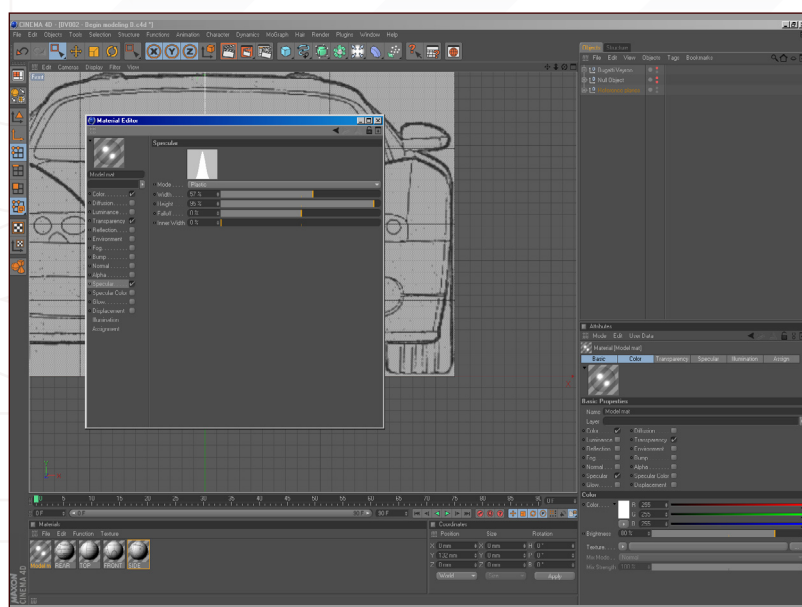

Fig 04
4. Add a new material and call it 'model'. Change its values to that shown in **Fig04**. I've added 80% transparency to help see through the model with the reference planes behind. In each viewport, press Shift + V and enable Enhanced OpenGL. This will allow you to view the transparency in the viewport. The scene is now ready to begin the modelling (**Fig04**).